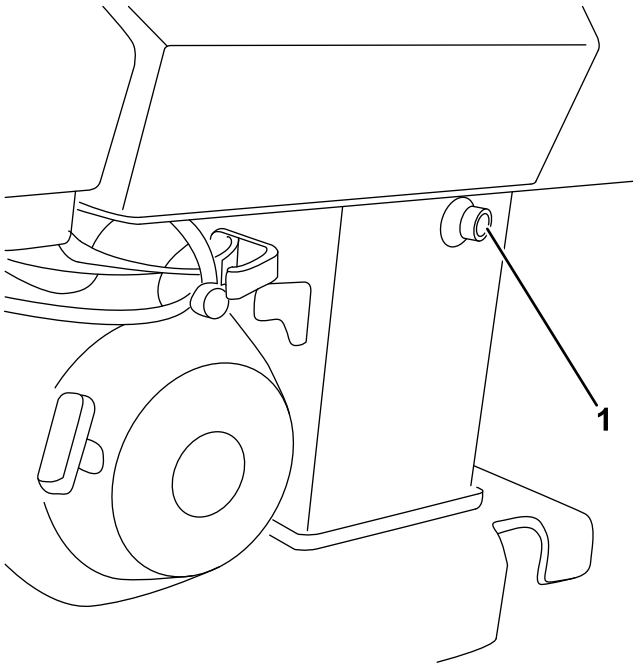

Figure 7
4. Locate the oil sight gauge (Figure 7) on the side of the hydraulic oil tank.